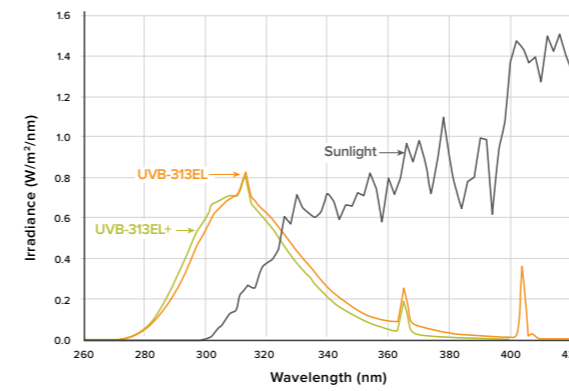

Figure 3 - Sunlight and UVB-313 lamps
- **UVB-313EL** lamps (Figure 3) are also commonly used in the QUV. They typically cause faster degradation than UVA lamps, but their short wavelength output below the solar cut-on can cause unrealistic results.